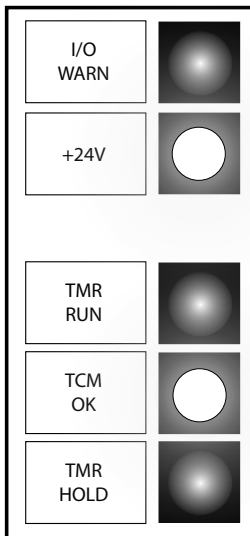

Fig. 5A Timer Close Module LED's
- If Timer Close Module is properly installed, the +24V" and "TCM O.K." will turn on. (Fig. 5A) (See also page 18 —Troubleshooting Section.)